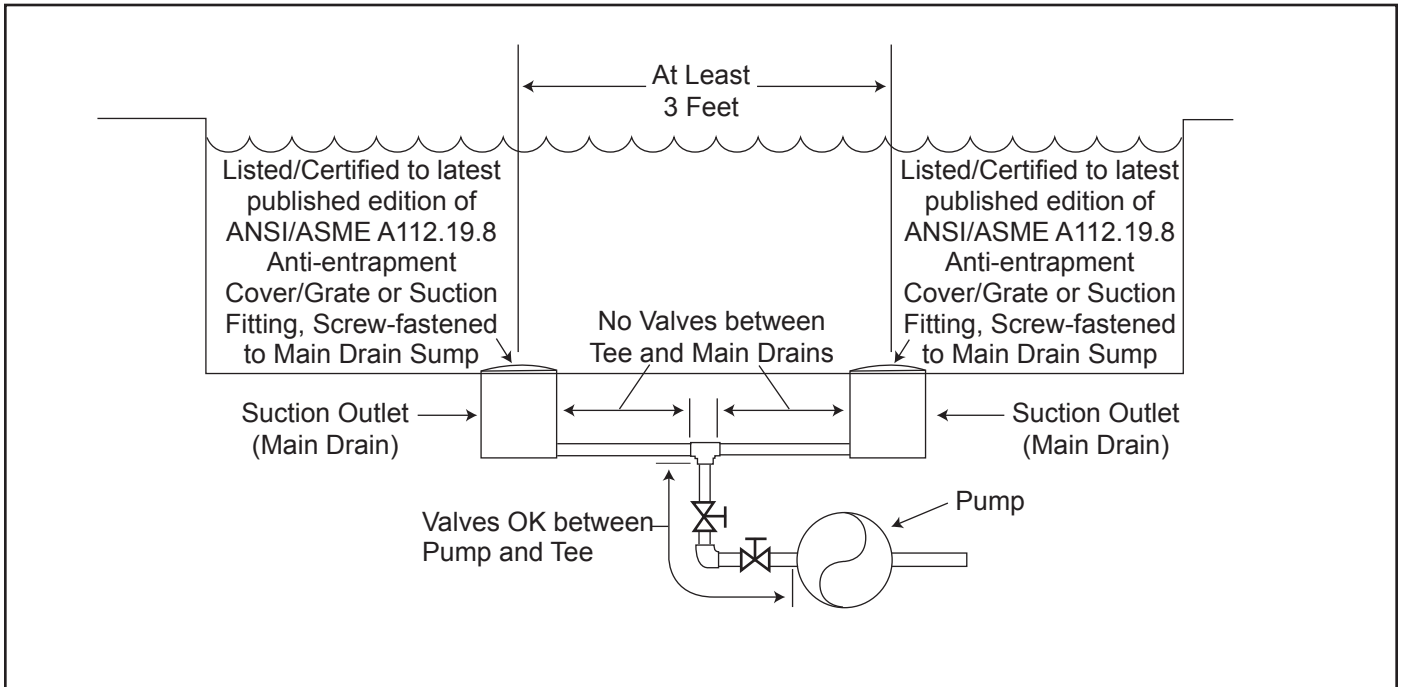

Figure 1. Number of Suction Outlets Per Pump
Number of Suction Outlets Per Pump - Provide at least two (2) hydraulically-balanced main drains, with covers, as suction outlets for each circulating pump suction line. The centers of the main drains (suction outlets) on any one (1) suction line must be at least three (3) feet apart, center to center. See Figure 1 on Page 7.
The system **must** be built to include at least two (2) suction outlets (drains) connected to the pump whenever the pump is running. However, if two (2) main drains run into a single suction line, the single suction line may be equipped with a valve that will shut off both main drains from the pump. The system shall be constructed such that it shall not allow for separate or independent shutoff or isolation of each drain. See Figure 1 on Page 7.